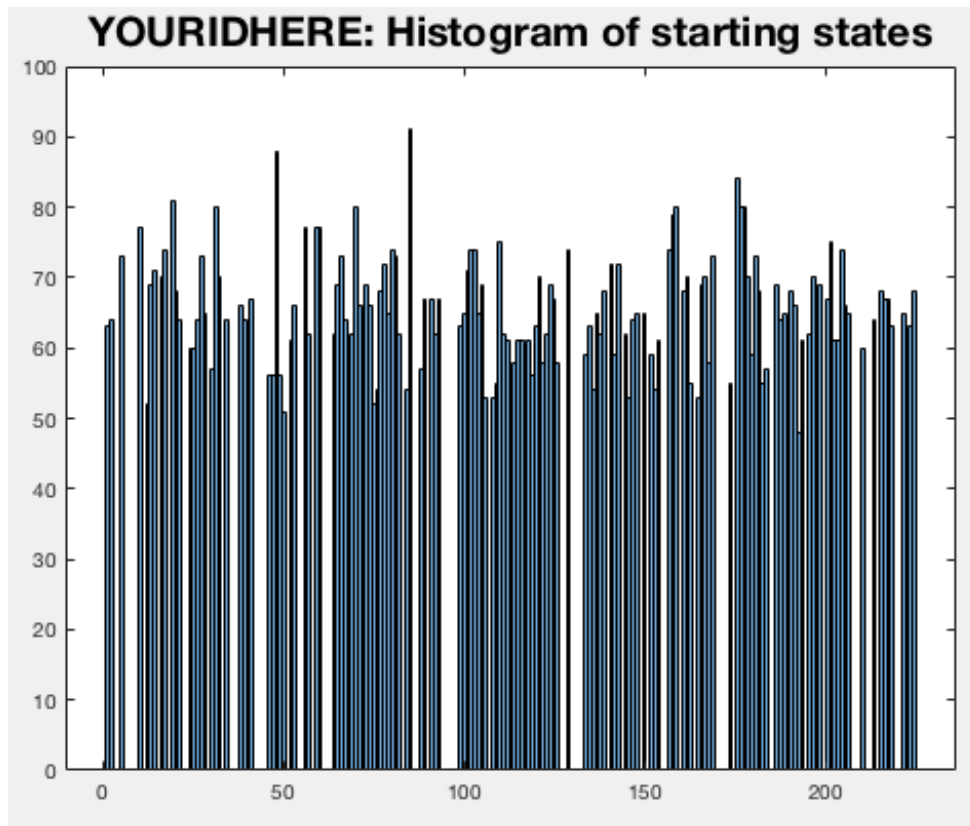

Figure 7. Histogram of 1000 randomly generated starting states, plotted with 225 bins corresponding to one of the maze's 225 states.
- You should end up with a histogram like the one shown in **Fig 7**.